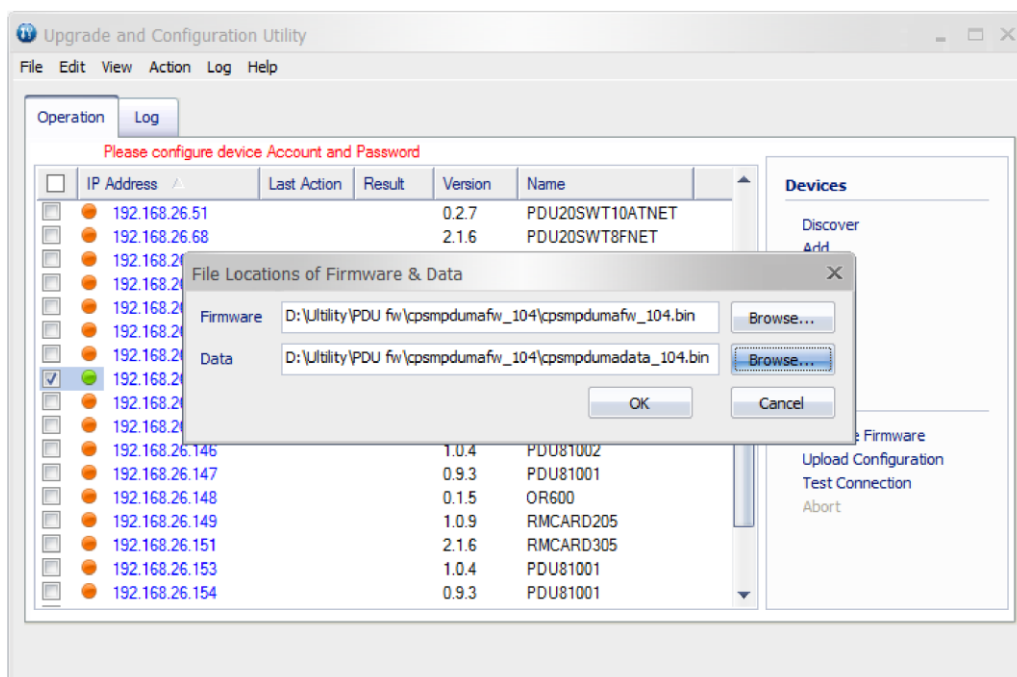

Figure 4.
7. Click **Browse** to locate and select the firmware and data file to be updated (Shown in Figure 4).